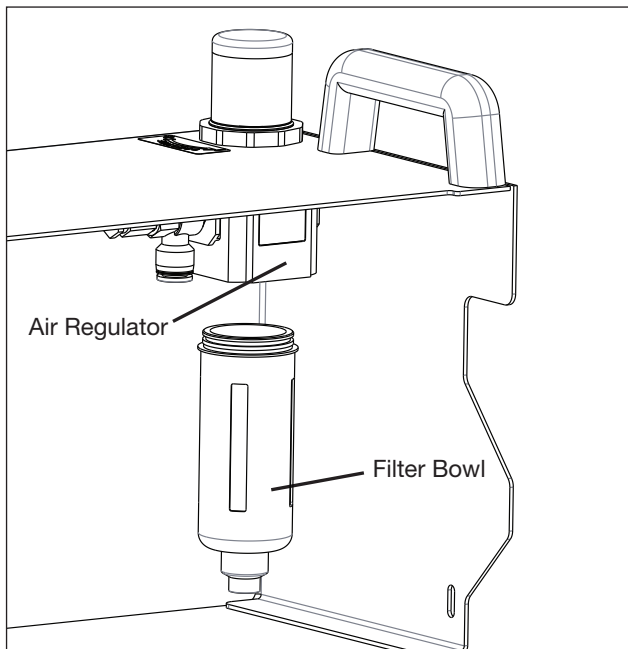

Figure 17 - Air Regulator and Filter Bowl
- Grasp the filter bowl and depress the release button. Pull straight down and remove the filter bowl from the air regulator. See Figure 17.